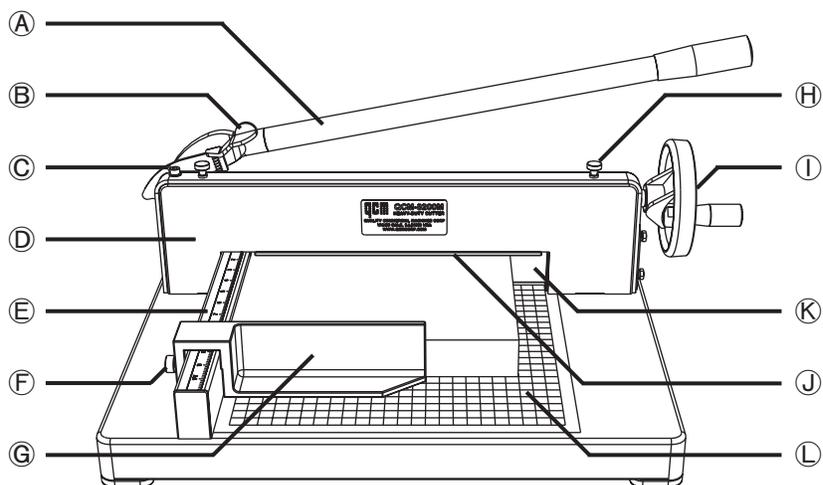
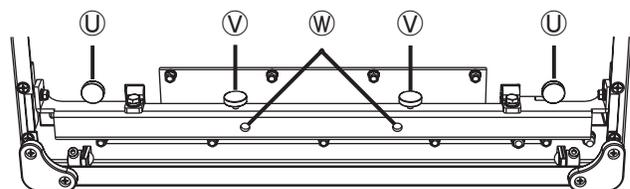

Figure 1
Figure 5
1. Place the machine on a flat, stable surface in a traffic-free area, facing the front of the machine towards you as shown in figure 1.
2. Raise the cutting bar lever ⑥ until the safety lock ⑤ engages.
3. Rotate the clamp wheel ① counter-clockwise to raise the paper clamp ④ to the up position.
4. Lift the front end of the base up as shown in figure 5. Release the two cutting stick holding screws ⑤ underneath the base.
5. Insert a #2 philips screwdriver into the two cutting stick ejecting holes ⑥ to eject the cutting stick.
6. Place the base back to the position shown in figure 1.
8. Raise the front end of the base as shown in figure 5. Place the two cutting stick holding screws ⑤ back in place. Once the screws are hand-tight, place the base back to the position shown in figure 1.
1. Place the machine on a flat, stable surface in a traffic-free area, facing the front of the machine towards you as shown in figure 1. Raise the cutting bar lever ① until the safety lock ② engages.
2. Rotate the clamp wheel ① clockwise to lower down the paper clamp ④ to the bottom position. Release the two front cover holding screws ⑥.
3. Lift the front end of the base up as shown in figure 5. Release the two front cover holding screws ⑥ underneath the base.
4. Place the base back to the position shown in figure 1. Remove the front cover.